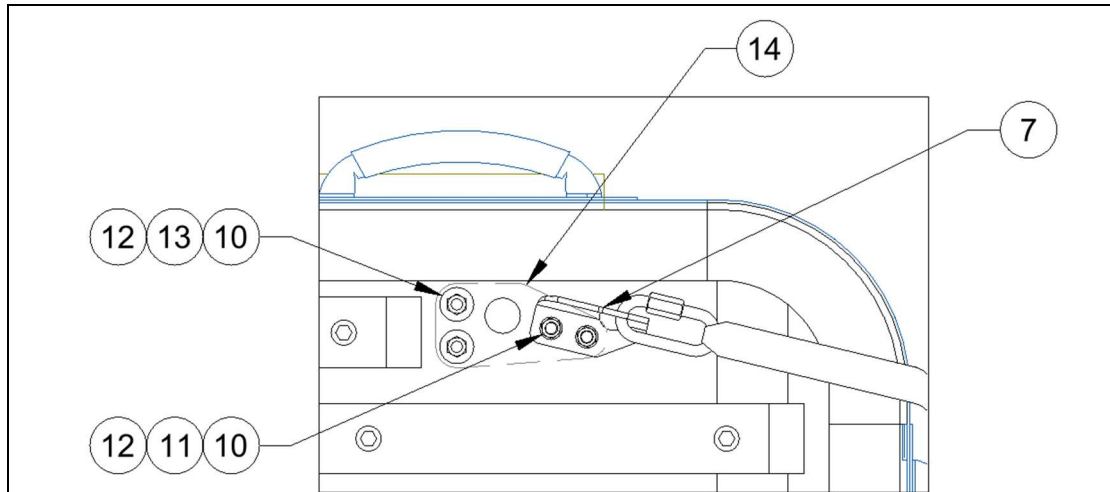

Figure 4 - shows the components forming the anchor point for the Frame Strap.
8. Fit the strengthening plate to the inside of the basket floor using M8 Bolts (Item 10). A Penny Washer (Item 13), with a larger diameter, is used to secure the strengthening plate only, see Figure 4.